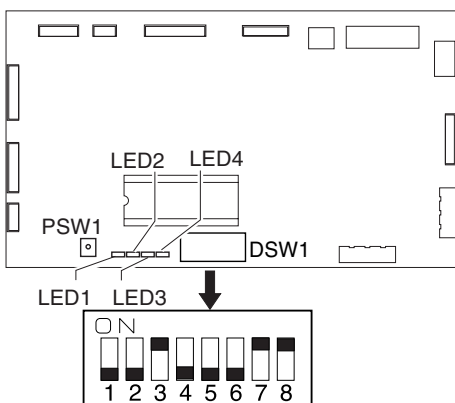

Figure 3-18
- 2) Set the DIP switch (DSW1) on the ADF controller PCB as shown in Figure 3-18, and press the push switch (PSW1) to start read speed adjustment mode.
When read speed adjustment mode starts, the LEDs (Figure 3-18) on the ADF controller PCB indicate the present settings as follows: